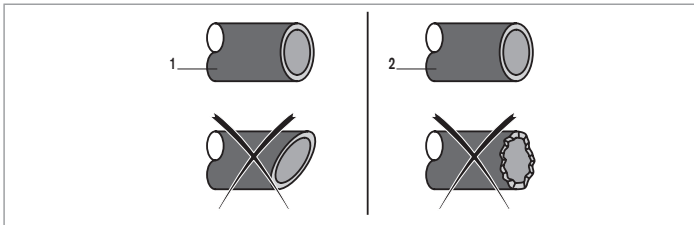

Fig. 17: Pipe cut and deburred
- Cut the pipe squarely [1] and deburr [2]. See Fig. 17.